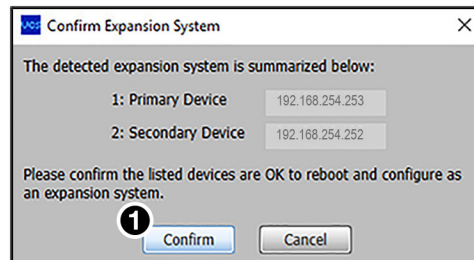

Figure 80. Confirm Expansion System Prompt
The Confirm Expansion System window opens (see figure 80), showing the IP addresses of all Quantum Ultra devices with expansion cards, listed in their order in the chain, with the primary device at the top.
5. If all the information on this screen is correct, click the **Confirm** button at the bottom of the screen (see **figure 80**, **1** on the previous page).